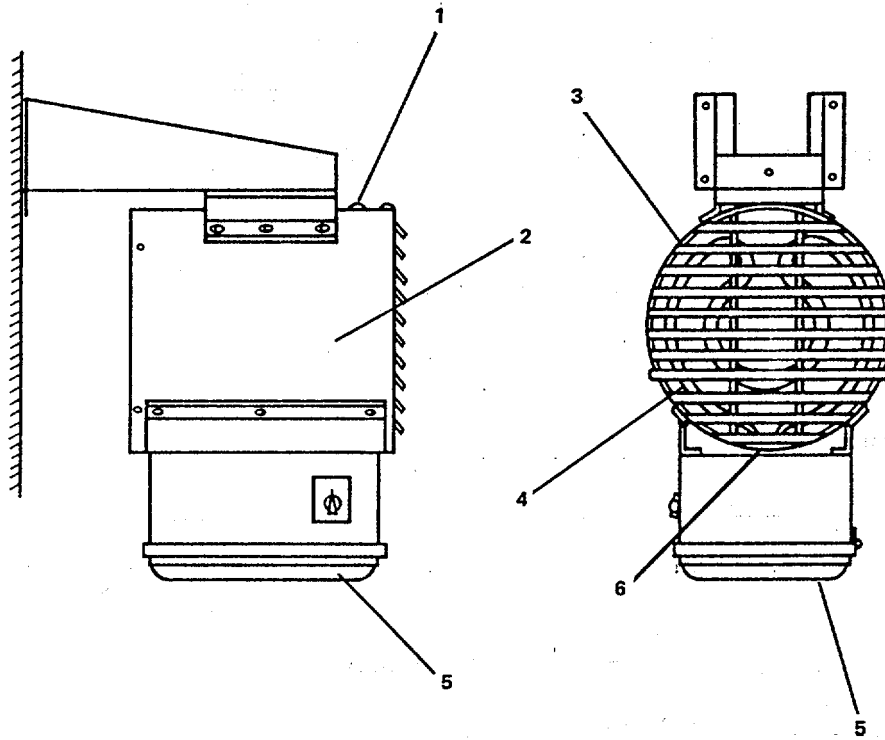

Figure 2-13. Electric Space Heater (Units #3, #5, #6, and #7).
**2-23. Repair Heater, Space, Electric (Units #3, #5, #6, and #7). (FIGURE 2-13)****This task covers:****a. Repair****INITIAL SETUP:**Tools